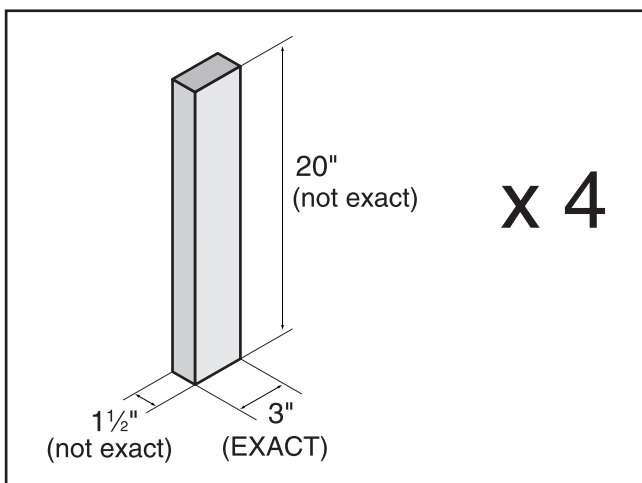

Figure 43. Precision gauge block dimensions.
4. Using 2x4's, make four precision gauge blocks to the specifications shown in **Figure 43**.